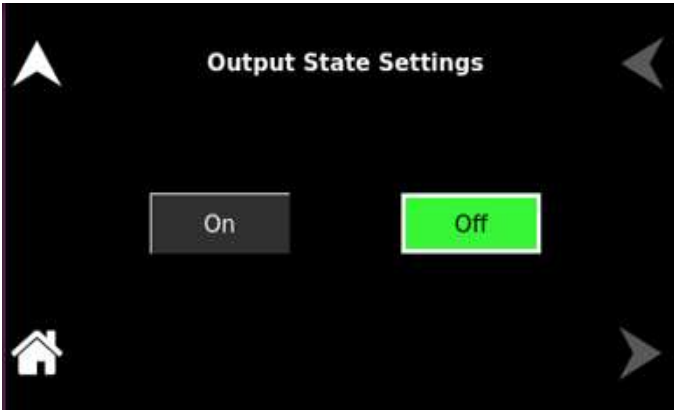

Figure 8-22. Output State Settings
**Output State**                      User can program the output to ON or OFF state. Refer to Figure 8-22.